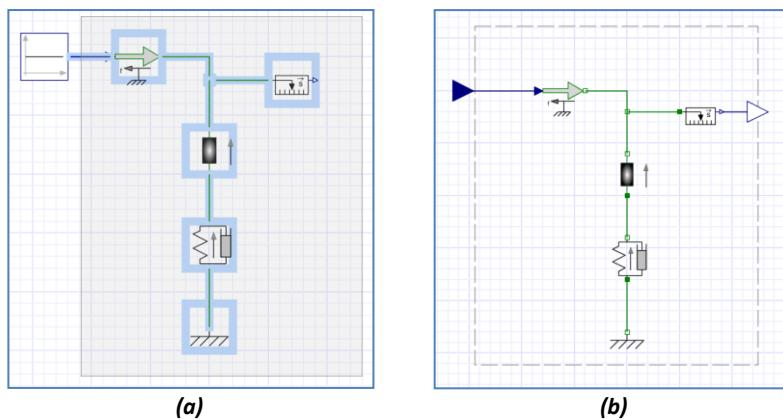

Figure 7.2. a) Creating a subsystem and b) connecting components
21. Connect the model as shown in **figure 7.2** and attach the appropriate probes. For help on building your model, see Section 3.